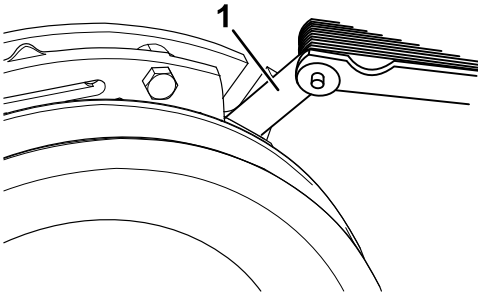
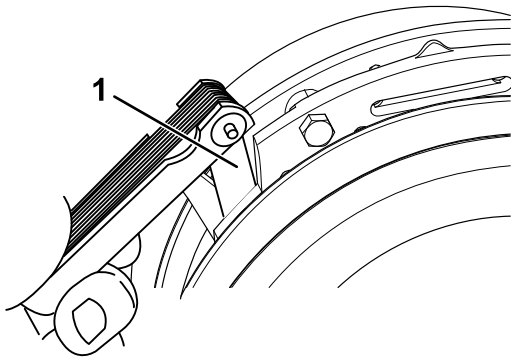

Figure 65
Figure 66
- E. Using a 0.010 inch thick-feeler gauge, verify that a gap is present between the rotor and armature face on both sides of the brake pole as shown in Figure 65 and Figure 66.